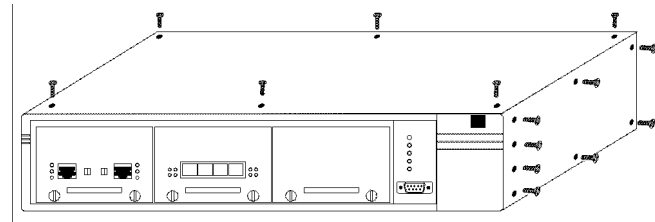

Figure 5-1 Removing casing screws
- 3 Remove the casing screws as shown in Figure 5-1 and lift the lid from the unit.